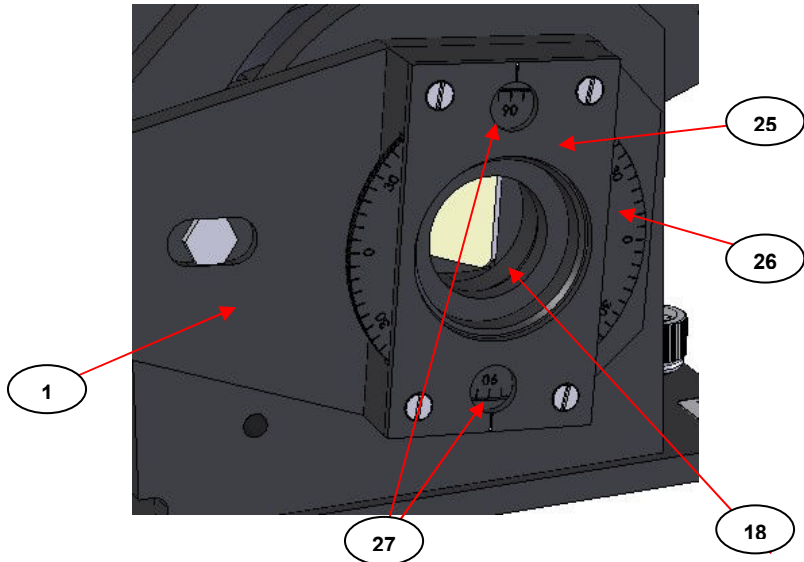

Fig 15. Rotatable Polarizer Mount on the Monolayer Grazing Angle Accessory
The GS12000 Series range of Specac polarizers fit directly into the central aperture opening (18) of the polarizer mount (25). (See Fig 15.)
- 1) Set the right hand butterfly arm (1), that carries the polarizer mount (25), to its maximum horizontal position, i.e. when the 90° angle division on the scale (19) is aligned with the angle indicator reference mark (20). Tighten the locking thumbscrew (21) to secure.
- 2) The polarizer mount (25) carries its own graduated division marked, rotatable ring (26) for an angular setting of the polarizer grid. The ring (26) is marked in 5° angle divisions for setting the angle of the polarizer grid within an estimated 2.5° angular setting if the ring is set midway between a marked division (e.g. 25°, 27.5° and 30° settings). Rotate this ring (26) until the 0° angle graduated marks are at the 3 O'clock and 9 O'clock positions. (As seen for **Fig 15.**)
- 3) Insert the polarizer into the aperture (18) with the tab piece on the polarizer ring mount facing outwards and at the **12 O'clock position** relative to the 0° graduated marks at the 9 O'clock and 3 O'clock positions. The polarizer should be a snug fit (not too tight) to hold in the aperture (18) and be rotated by the ring (26), but its tightness of fit can be altered by adjustment of the tab piece. If the polarizer fit is loose, the tab piece can be prized open a little (do this very carefully to prevent touching the polarizer substrate material) to make a tighter fit when pushed into the aperture (18).